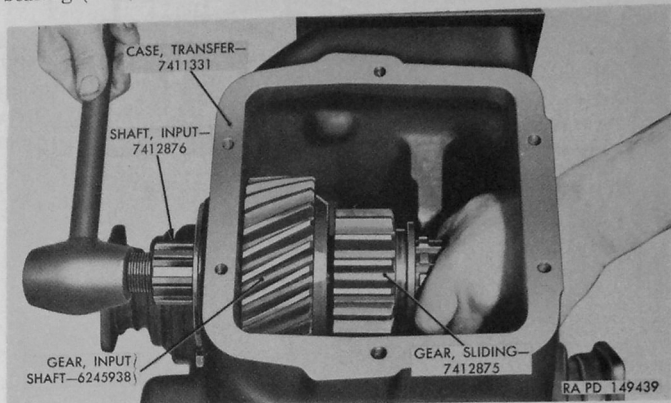

Figure 55. Removing input shaft and sliding gear assembly.
a. Remove four cap screws and lock washers attaching input shaft front bearing retainer (BN) to transfer case (ZZ) and remove retainer assembly and gasket.
b. While holding input shaft gear (CB) inside case, drive input shaft assembly (fig. 55) toward rear and out of input shaft front bearing (BW).